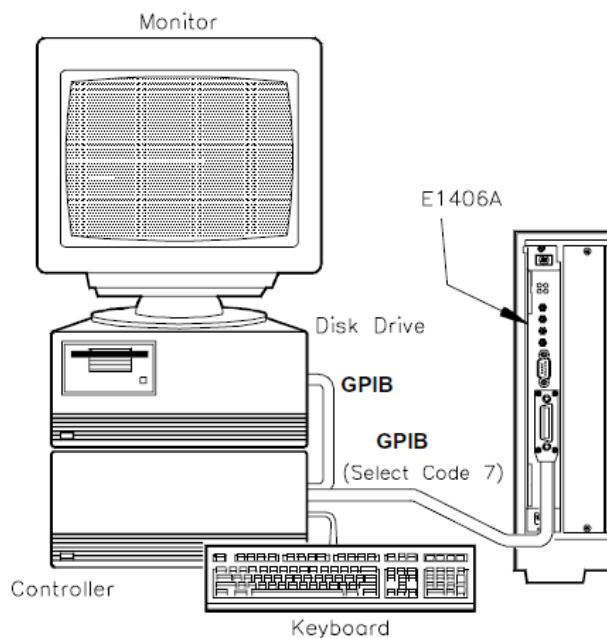

Figure 2-9 Test F-2. General System Information
- Connect computer to command module (see Figure 2-9)